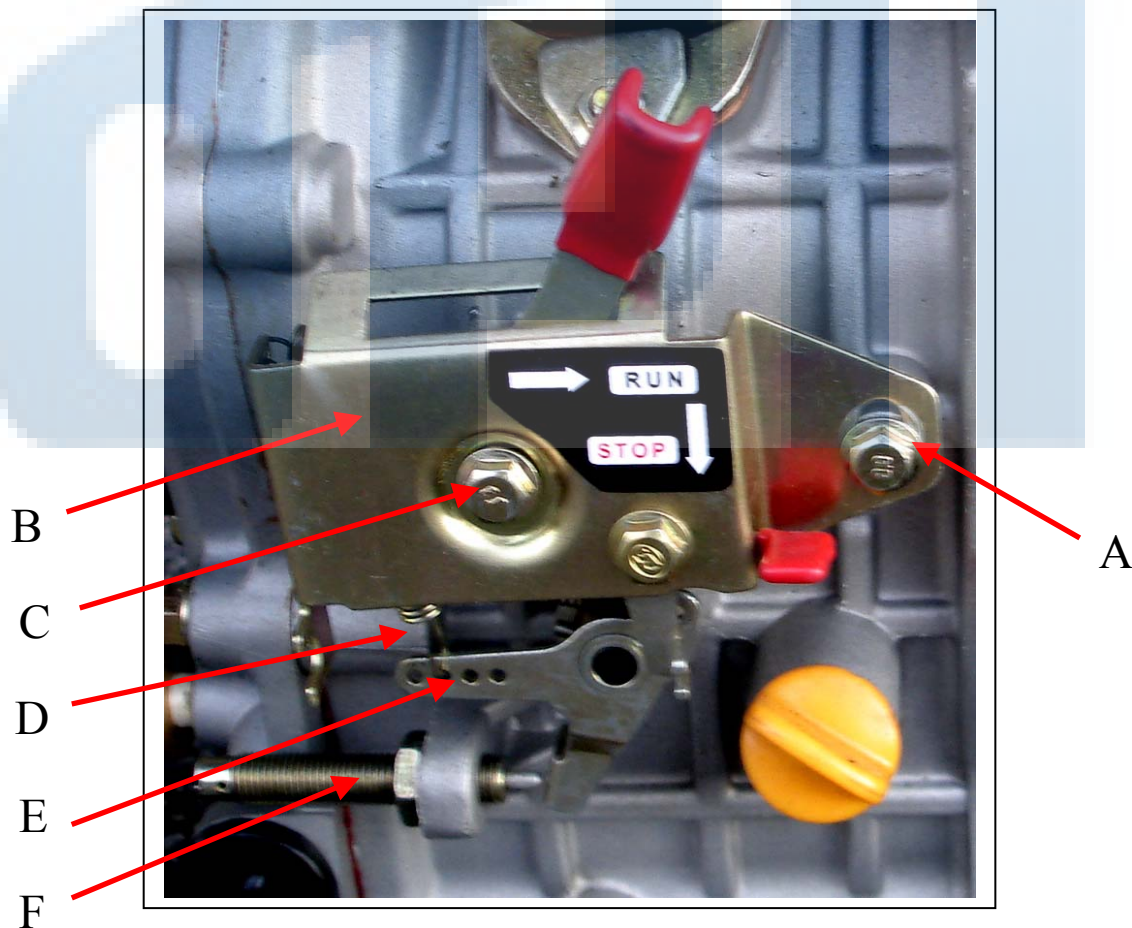

Fig. 5.1 Speed Governing System
There are three bolts used in the speed limit system (see Fig. 5.1): left (C), middle bottom and right (A) screws. Screws A & C are used for tightening metal plate B, A is also used for fine adjustment of speed and middle bottom screw for setting maximum fuel throttle. Please note that there is an oval-shaped hole in the metal plate B with A through.
There are two rows of three small holes right behind the metal plate B (not shown in Fig. 5.1) and four large holes in location E. If the adjusted frequency > 10 Hz, the thick spring D is used for coarse tuning. Try to hook two ends of D in one of six small and four large holes E respectively for obtaining desired frequency, e.g., if we need change 60Hz to 50Hz, this method will be involved. Given position of hooked small hole, the obtained frequency decreases in the order from left to right holes of E; given position of hooked large hole, the obtained frequency decreases in the order from left to right small hole in the same row and upper to lower small holes. Frequency adjustment shall be conducted with a frequency meter.